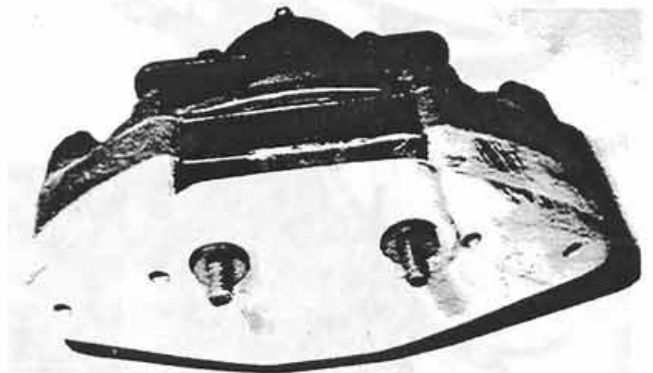

Figure 26:
13. Install a rubber bushing and a flanged nut on each of the threaded ends of the pad retaining pins protruding through the carrier side casting. The rubber bushing will fit in a recess in the carrier side casting (Fig. 26).